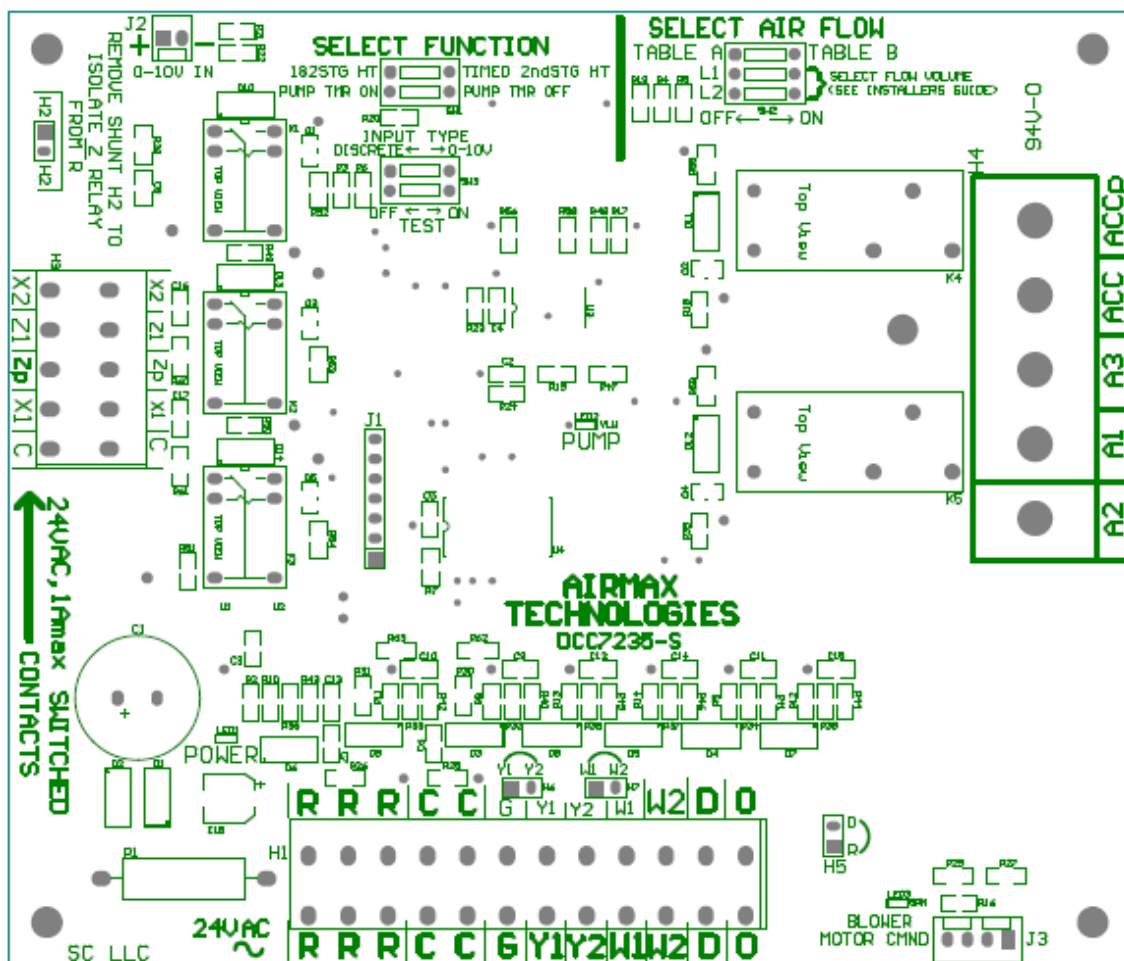

FIG 1
a.) **0-10vdc Command** — When SW3-1 "TEST" is **ON**, a 0-10 VDC input to J2 between Vin+ and Vin- produces a variable PWM output of 0% through 100%. **The polarity of the input signal must be observed.** See Figs 1 & 2: